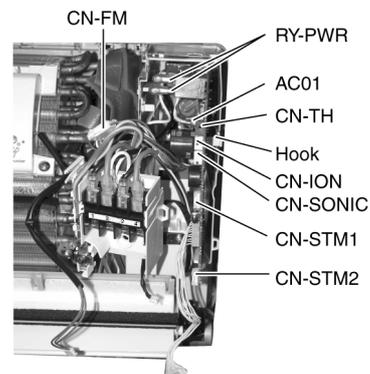

Fig. 4
- Release the CN-DISP connector. (Fig. 4)
- Release the CN-TH connector. (Fig. 4)
- Release the CN-ION connector. (Fig. 4)
- Release the CN-SONIC connector. (Fig. 4)
- Release the CN-STM1 connector. (Fig. 4)
- Release the CN-STM2 connector. (Fig. 4)
- Release the hooks that hold the Electronic Controller and pull out the Electronic Controller. (Fig. 4)
- Release the CN-FM connector. (Fig. 4)
- Release the AC01 (white) connector. (Fig. 4)
- Release the two RY-PWR connector. (Fig. 4)